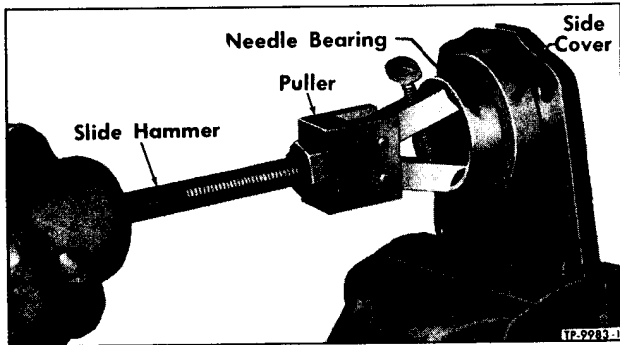

Figure 14—Removing Side Cover Needle Bearing (Typical)
1. Pull needle bearing from side cover, using puller tool (J-3187-A) with slide hammer (J-2619) (fig. 14).